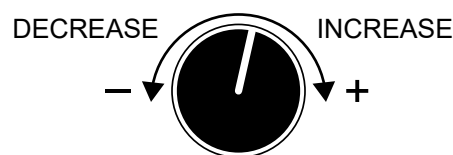

Figure 21. Voltage Regulator
3. Turn the voltage regulator (Figure 21) clockwise to increase voltage output, turn counterclockwise to decrease voltage output. Use the voltage regulator whenever fine tuning of the output voltage is required.